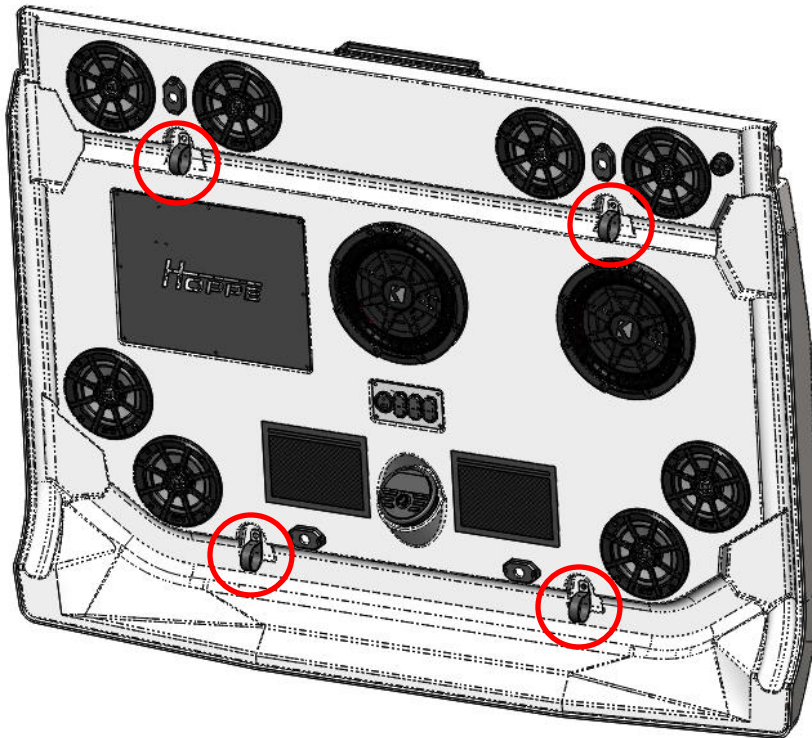
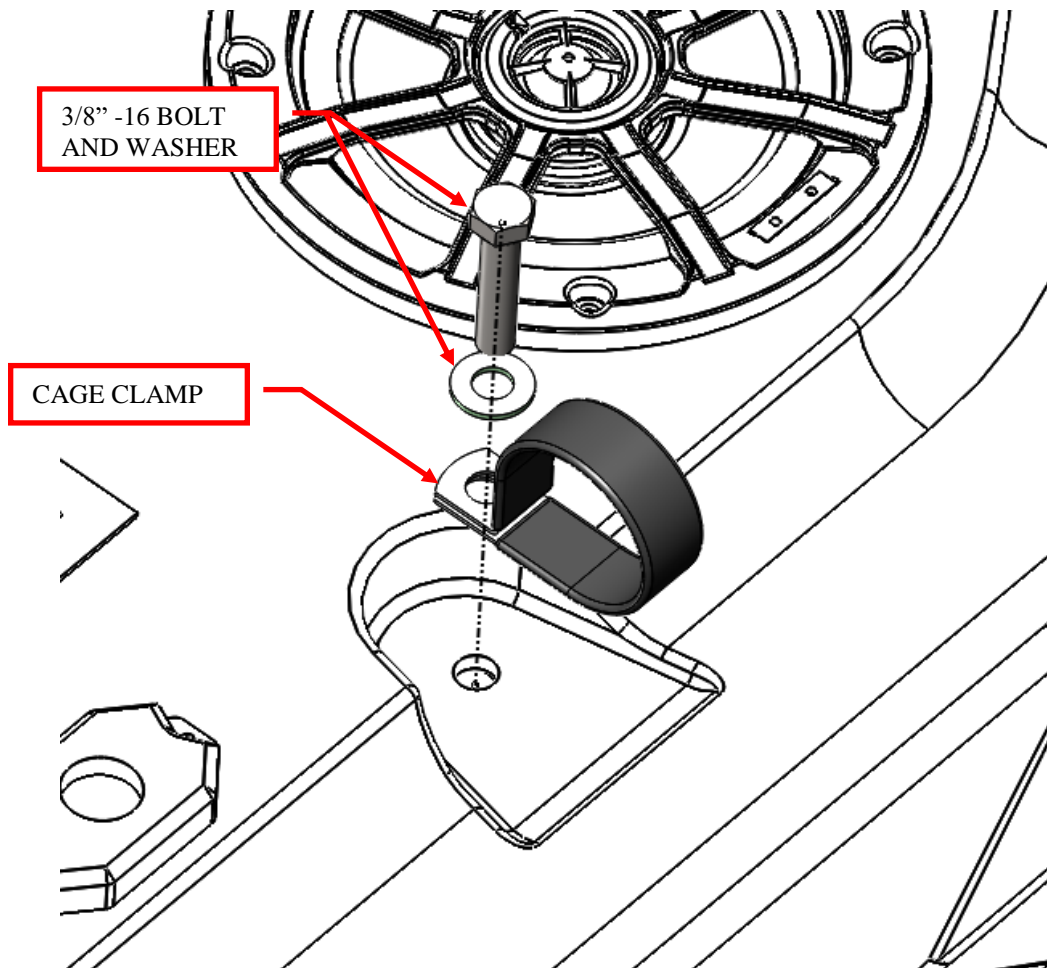

Figure 3: Remove the 4 clamps from the top.
Figure 4: Close up of cage clamp hardware.
1. Remove the cage clamps and 3/8"-16 bolts and washers that come pre-installed on the top. Save the hardware for installation. See Figure 3 and Figure 4.
4. Slide the clamps into position so they line up with the threaded holes in the top. For all 6 clamps, install the 3/8-16 x 1 1/4" bolt with washer through both clamp tabs and into the threaded hole in the top. Use blue Loctite 243 (medium strength) and torque the bolts to 25 ft.*lbs. See Figure 4.